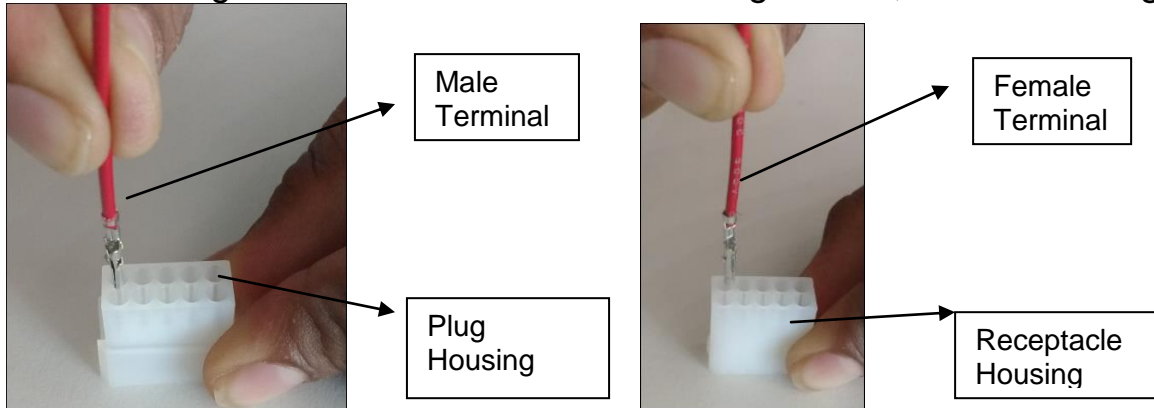

Fig.1
1. Hold the Plug in left hand and Terminal in Right hand, as shown in fig.1.